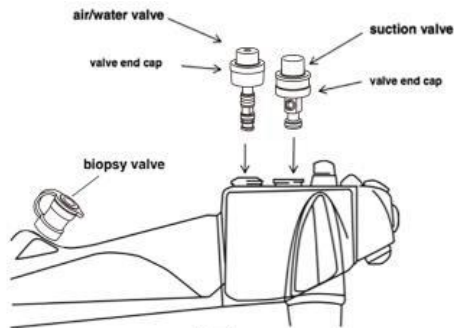

Figure 1
5. Insert the Suction Valve into suction cylinder of a Pentax® endoscope (see Figure 1 below).
10. Insert the Air/Water Valve into the air/water cylinder of a Pentax® endoscope (see Figure 1 below).
14. Securely place the Biopsy Valve onto the biopsy/suction channel opening of a Pentax® endoscope (See Figure 1).